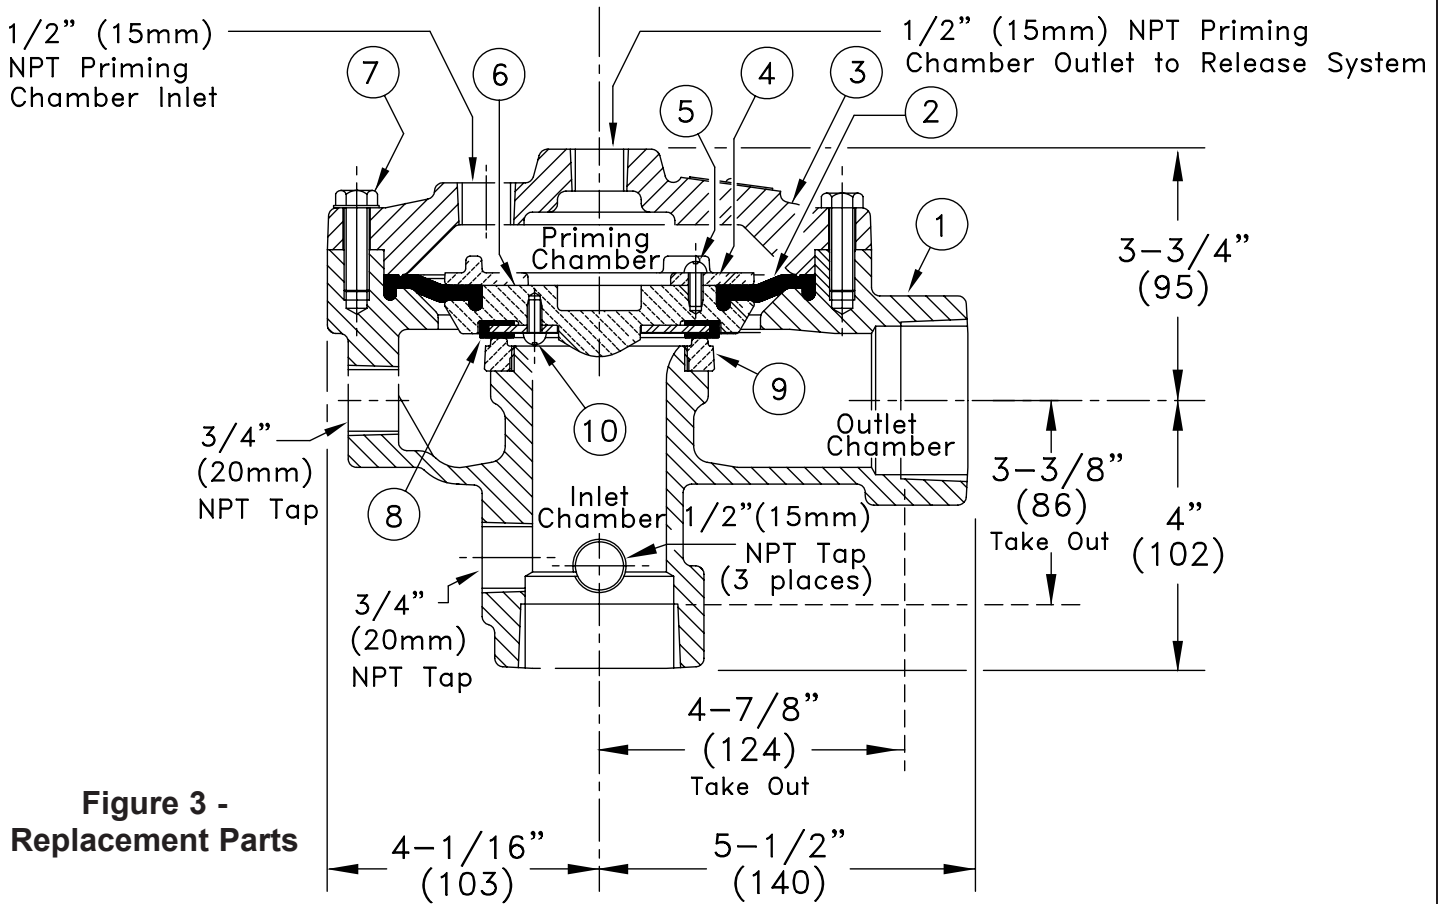

Figure 3 - Replacement Parts
D. Valve Disassembly (Refer to Figure 3.)
3. Remove the cover (3):
- a. Remove each of the cap screws (7) using a Socket Wrench with a 9/16" socket, and break the seal of the cover.
- b. Lift the cover (3) off the valve body (1) and gently set it aside.
E. Installing Replacement Parts and Valve Reassembly (Refer to Figure 3.)
- a. Remove the old clapper assembly (2, 4, 5, 6, 7, 8, and 10) by placing a flat head screwdriver between the body (1) and the diaphragm rubber and then lifting the clapper assembly from valve body (1).
- b. Inspect the seat (9).